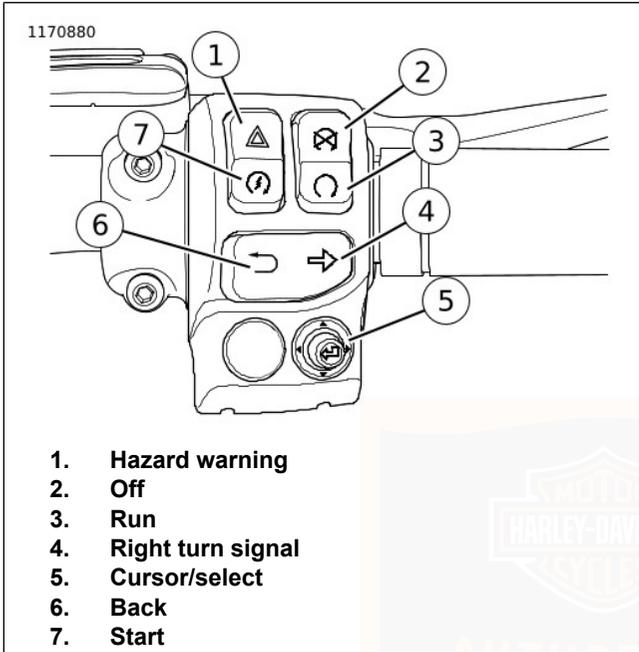

Figure 25. Right Hand Switch Module (Typical)
See Figure 25. The hazard switch (1) is used to leave a stranded motorcycle in the 4-way flashing mode. With the flashers, the motorcycle can be left with the ignition off until assistance is found. Refer to Table 27.
See Figure 25. Press the engine OFF/RUN switch to off (2) to shut off the engine. Refer to Table 27.
See Figure 25. Push the engine OFF/RUN switch to run (3) to enable engine start and run. The engine OFF/RUN switch must be in the run position to start or operate the engine. Refer to Table 27.
See Figure 25. Press the right turn signal switch (4) to activate the right turn signal. Refer to Table 27.
See Figure 25. The CURSOR/SELECT five-way switch (5) operates radio features on equipped vehicles. See the BOOM! BOX OWNER'S MANUAL. Refer to Table 27.
See Figure 25. The back switch (6) operates radio features on equipped vehicles. See the BOOM! BOX OWNER'S MANUAL. Refer to Table 27.
2. See Figure 25. Switch the OFF/RUN switch to the run position (3). Shift the transmission to neutral. The neutral (green) indicator illuminates. See OPERATION > STARTING THE ENGINE (Page 105).
3. Press the start switch (7) to operate the starter motor. Refer to Table 27.